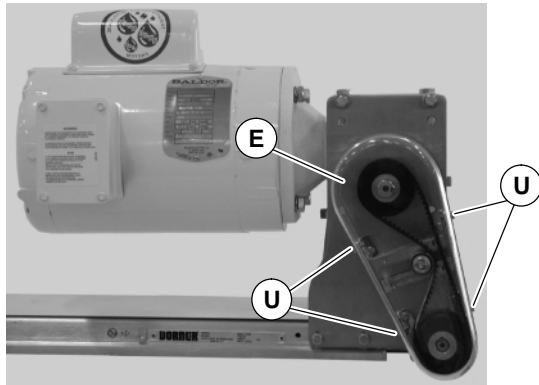

Figure 21
1. Remove four (4) screws (U of Figure 21) and remove cover (E).
4. Attach cover (E of Figure 21) with four (4) screws (U). Tighten to 4 Nm.